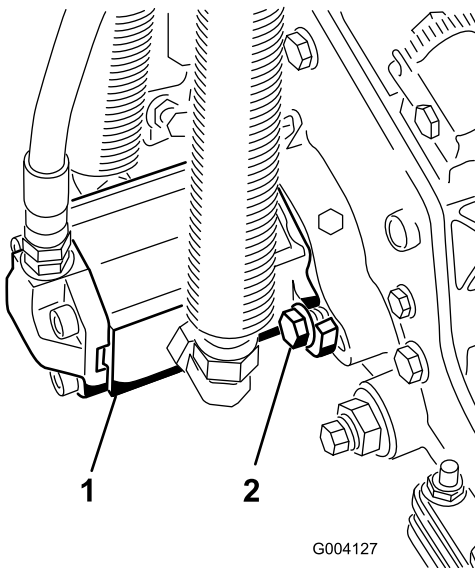

Figure 15
11. Install the motor by rotating it clockwise so that the motor flanges clear the cap screws (Figure 15).